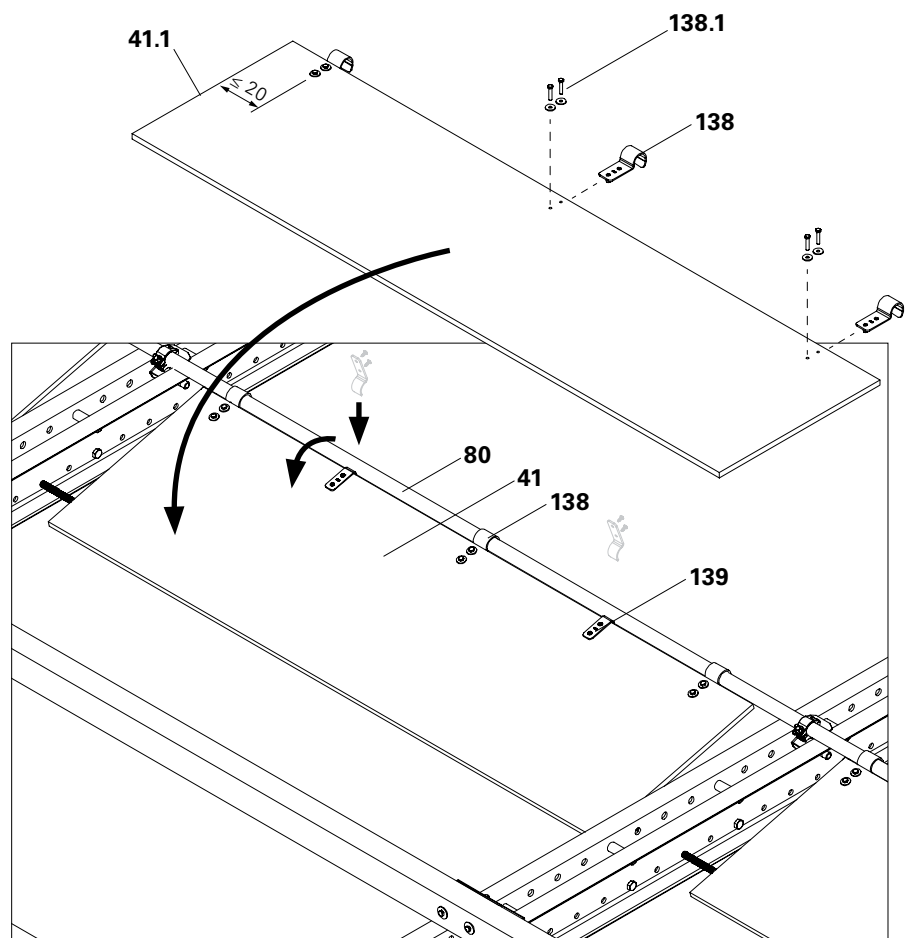

Fig. C2.04
5. Mount the foldable cover (41) on the scaffold tube (80) and place on the reinforcing bar (150).
6. For each foldable cover, mount at least one Flap Safety Plate (42) approximately in the centre using 2 SPAX Screws TX 30 8x20. Foldable cover is now secured. (Fig. C2.04)